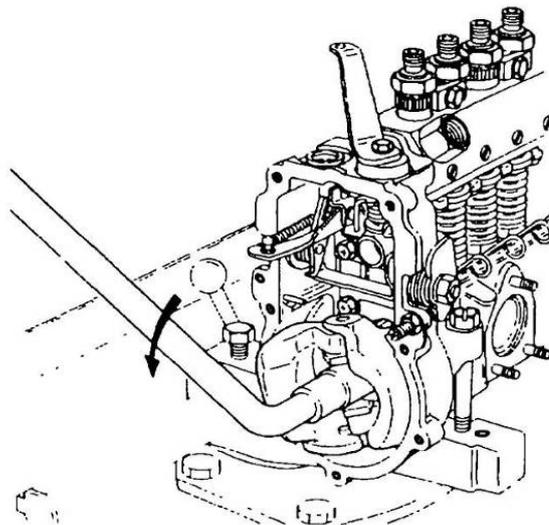

Figure 68 Removing the Flyweight Locknut
- j. Position special tool 157916-5420 on the camshaft coupling to prevent the camshaft from turning. With special tool 157915-0100 and a lever, (special tool 157910-1120), remove the flyweight locknut (Figure 68).